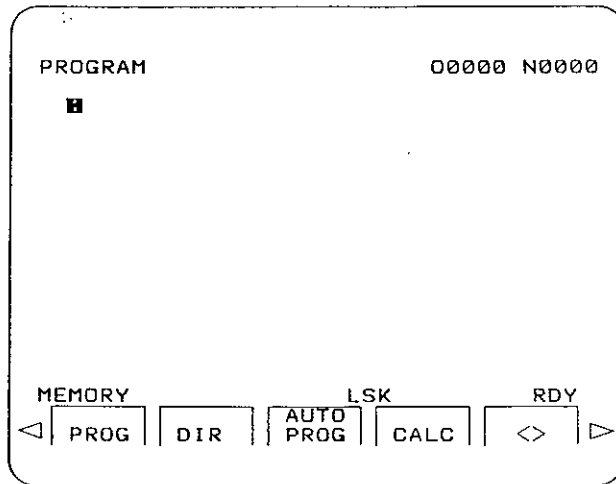

Fig. 6.2
- Display showing only the NC program (Fig. 6.2)
When the program is searched by the display of Fig. 6.2: